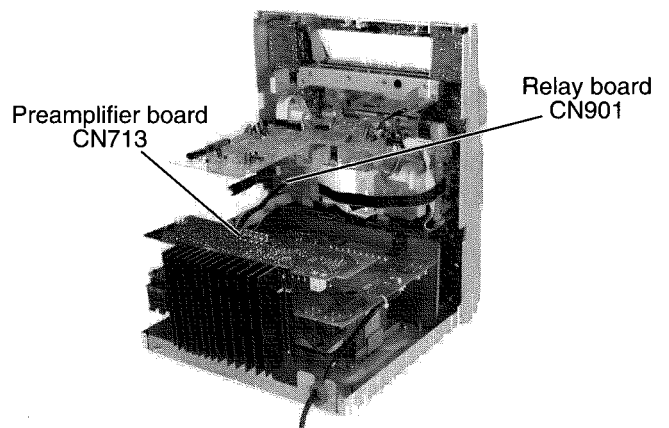

Fig.29
■ **Removing the preamplifier board / heat sink (See Fig.29 to 31)**